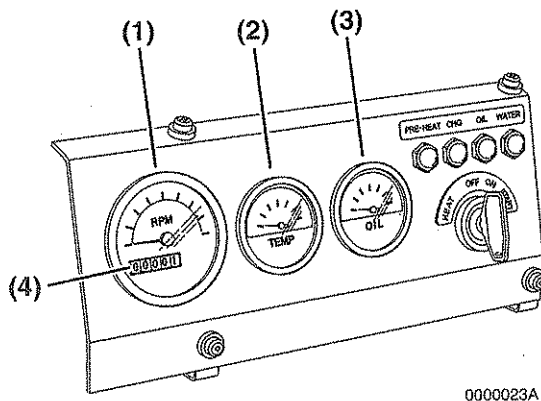
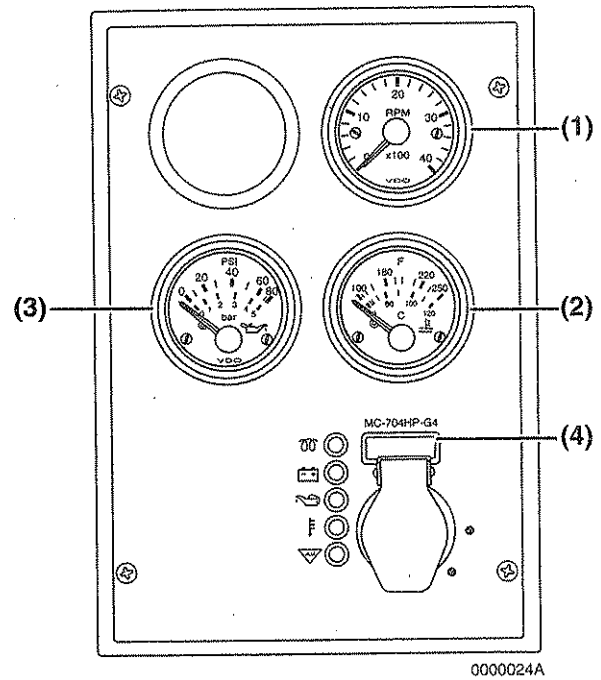

Figure 7
Figure 8
Tachometer - The tachometer display (Figure 7, (1)) or (Figure 8, (1)) shows the engine speed in revolutions per minute (RPM).
Engine Coolant Temperature - The engine coolant temperature display (Figure 7, (2)) or (Figure 8, (2)) shows the temperature of the engine coolant.
Engine Oil Pressure - The engine oil pressure display (Figure 7, (3)) or (Figure 8, (3)) shows the pressure of the engine oil.
Hour Meter - The hour meter display (Figure 7, (4)) or (Figure 8, (4)) shows the total number of hours the engine has run. This is useful for planning the *Periodic Maintenance Procedures* on page 72.